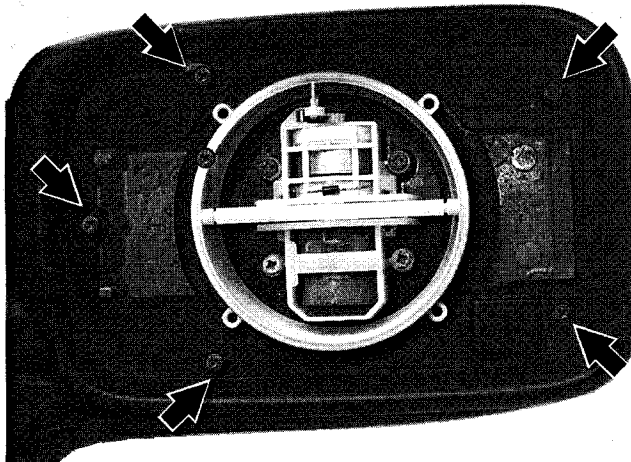

Fig. 2. Mirror housing retaining screws (arrows).
2. Remove housing retaining screws and lift off rear housing. See Fig. 2.